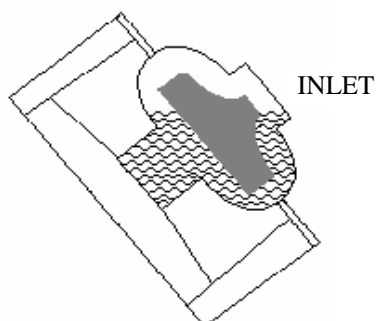

FIGURE 4: BEST ORIENTATION
3. Cut out the required section of the radiator hose. Connect the pump inlet and outlet to the appropriate hoses ensuring that the pump is oriented in the BEST CORRECT ORIENTATION as shown in Fig 4, page 7 "**BLEEDING THE EWP[®]**" during bleeding. Ensure hose clamps are tight.